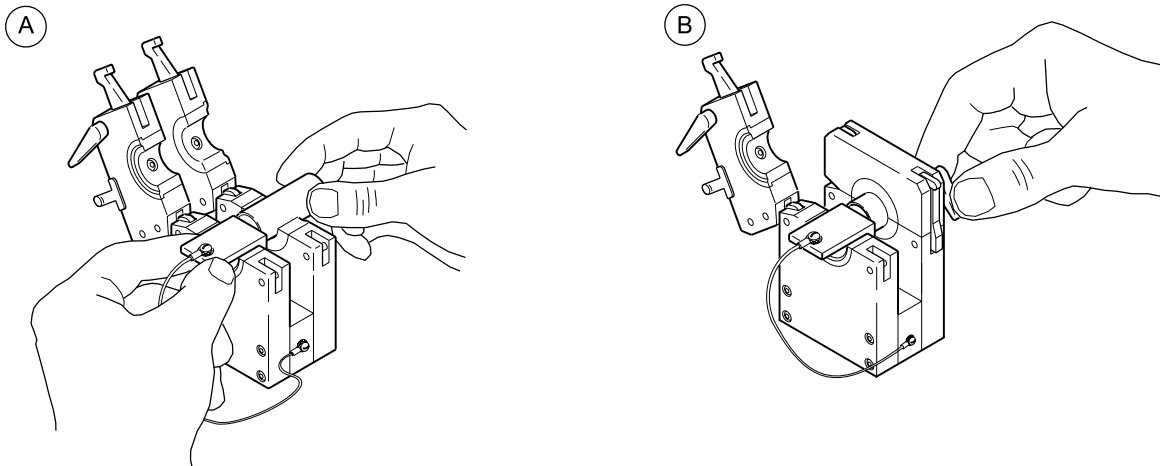

Figure 15 Placing First Work Piece in the Fixture Block
2. Butt one work piece against the centering gage. See Figure 15(A).
3. Lock down the top side plate. See Figure 15(B).